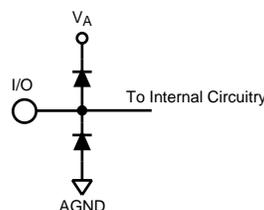

Figure 2.
- (1) The inputs are protected as shown below. Input voltage magnitudes above V_A or below GND will not damage this device, provided current is limited per Note 4 of the Absolute Maximum Ratings Table. However, errors in the A/D conversion can occur if the input goes above 2.6V or below GND as described in the Operating Ratings section. See Figure 2.
- (2) With a full scale differential input of $2V_{P-P}$, the 14-bit LSB is $122.1\text{ }\mu\text{V}$.
- (3) Typical figures are at $T_A = 25^\circ\text{C}$ and represent most likely parametric norms at the time of product characterization. The typical specifications are not guaranteed.
- (4) Parameters specified in dBFS indicate the value that would be attained with a full-scale input signal.
- (2) With a full scale differential input of $2V_{P-P}$, the 14-bit LSB is 122.1 μV .
- (3) Typical figures are at $T_A = 25^\circ C$ and represent most likely parametric norms at the time of product characterization. The typical specifications are not guaranteed.
- (4) This parameter is guaranteed by design and/or characterization and is not tested in production.
- (5) I_{DR} is the current consumed by the switching of the output drivers and is primarily determined by load capacitance on the output pins, the supply voltage, V_{DR} , and the rate at which the outputs are switching (which is signal dependent). $I_{DR} = V_{DR}(C_0 \times f_0 + C_1 \times f_1 + \dots + C_{13} \times f_{13})$ where V_{DR} is the output driver power supply voltage, C_n is total capacitance on the output pin, and f_n is the average frequency at which that pin is toggling.